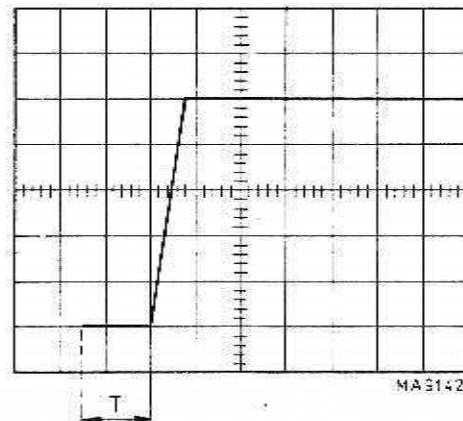

Fig. 3.10. Effective signal delay
- Check that the effective delay time T is larger than 1 division, see fig. 3.10.